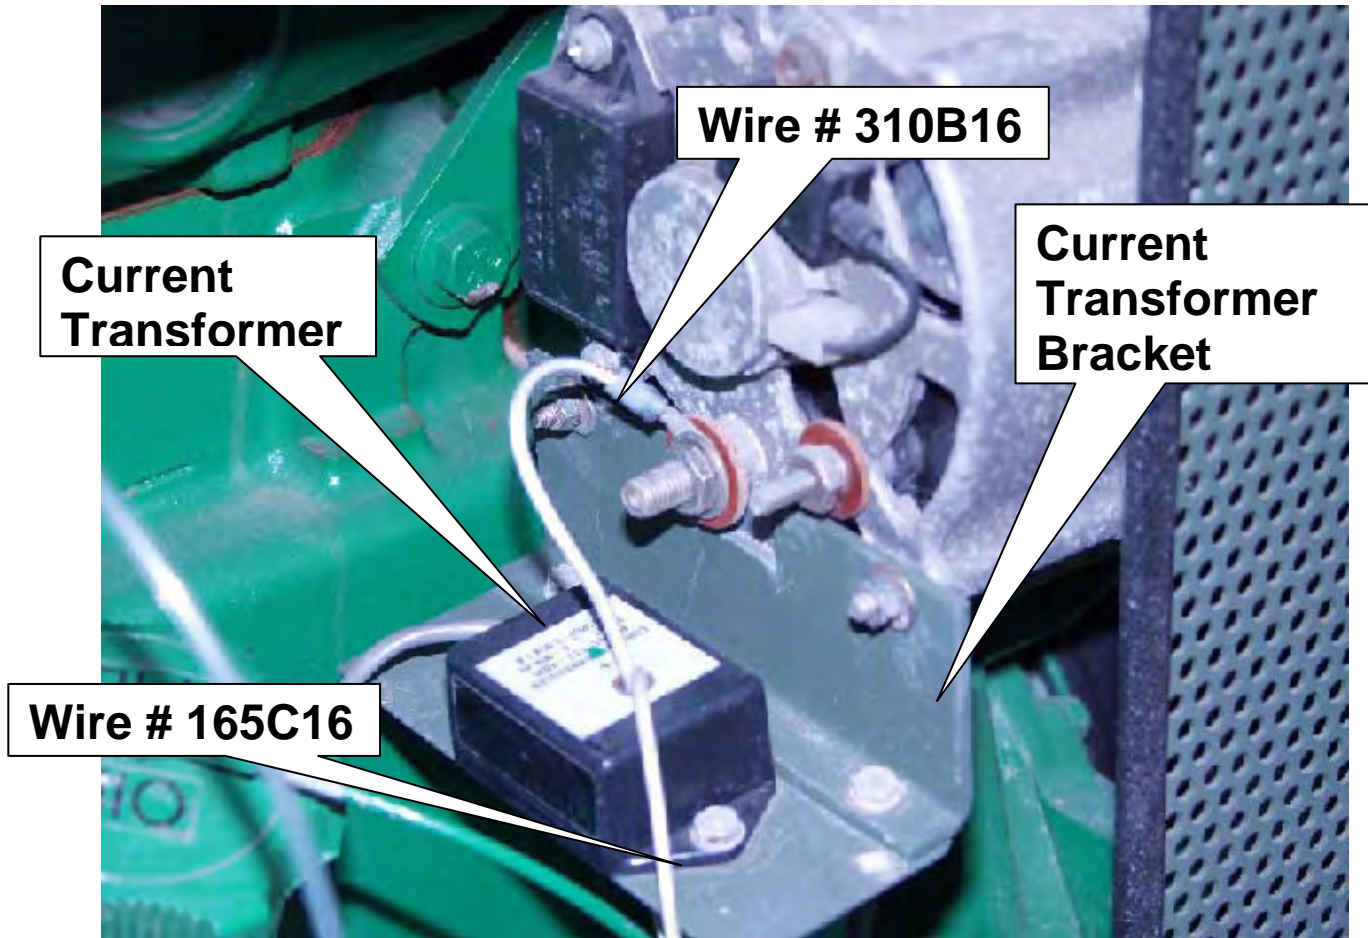

Figure 3. Alternator compartment
- 3 Disconnect wire #310B16 from the positive terminal on the battery charging alternator, cut off the terminal lug and remove the wire and fuse holder from the harness, see figure 3. If wire #165C16 has not been removed from the current transformer, perform the procedure in appendix A to move the DC control power wire.
4. Remove the current transformer bracket from the back of the alternator, see figure 3. Remove the battery charging current transformer from the bracket and discard the bracket.